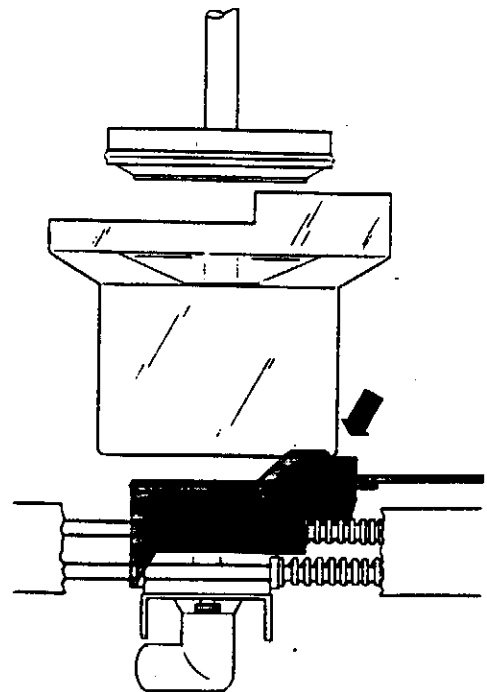

FIGURE 14
4. If the carriage was not correctly behind the cylinder and is being forced back out of the way or the cylinder is resting on top of the alignment shoulder of the brew carriage (see FIGURE 14) and causing the brew water to leak from between the cylinder and the brew chamber, then an adjustment of only one or two teeth to shorten the cable is needed - go to step 9. If the original adjustment has been lost, then a 'scratch' adjustment will have to be made - continue to step 5.